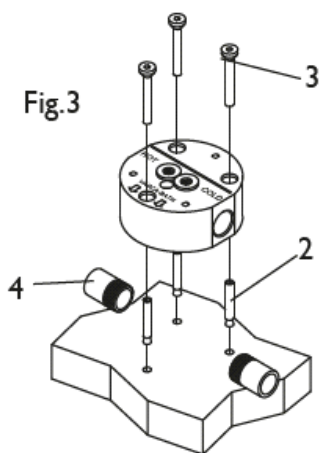

Fig. 3
Fig.3 Once the concealed base is securely fastened using the supplied fixings (2 and 3), connect the two water supply pipes (4). The concealed base must completely level to ensure the mixer body is vertically straight once attached. Carry now a test to check for leaks.